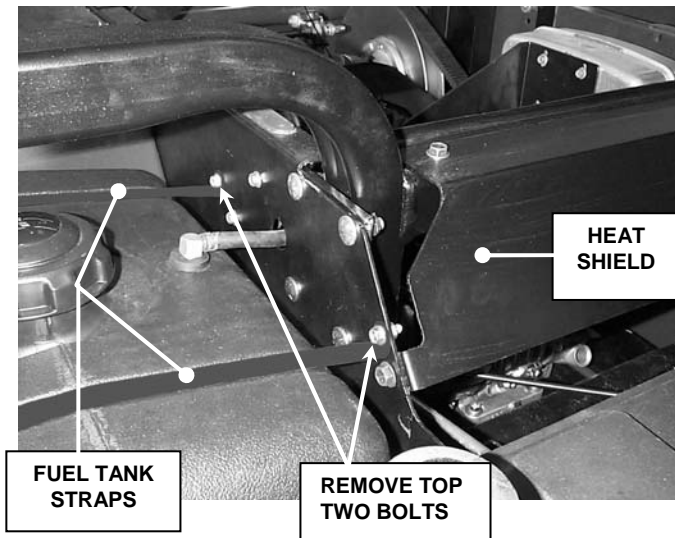

FIGURE 1.4
1. Remove the top two bolts from the fuel tank straps and slide tank out. This will allow clearance to install the bolt used to mount the right seat belt. See Figure 1.4.